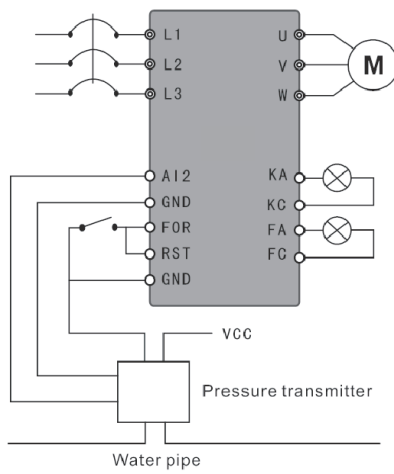

Figure F-5 Constant-Pressure Water Supply - Pressure Transmitter
(1) Use pressure transmitter with the range of 0-10kg and feedback of 4-20mA; pressure water supply of 5kg as required, alarm while above upper limit of 6kg and below lower limit of 4kg, and stop starting external terminal. As shown in Figure F-5.